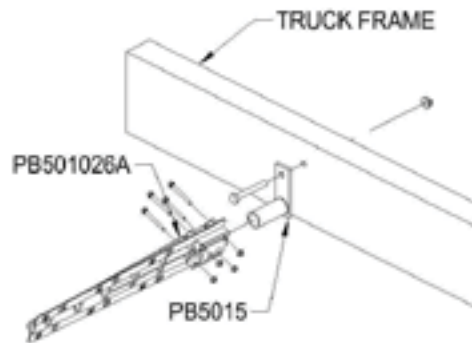

Figure 6
- A. Once the brackets are placed in position with the fender, securely tighten down the 5/8" x 4-1/2" bolts that go through the PB5015 steel swivel attaching the swivel to the frame. See Figure 6.